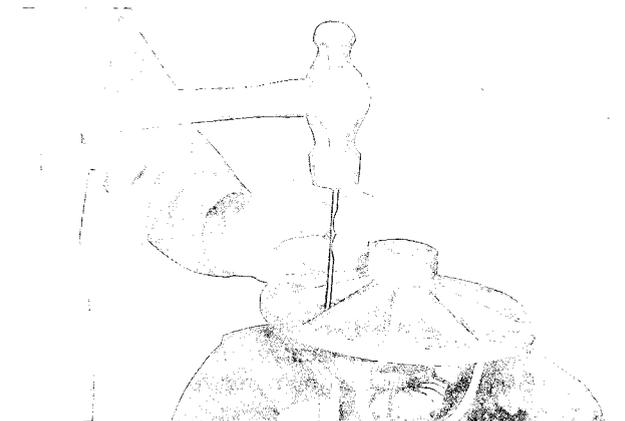

Fig. 9-7 Removing pinion shaft lock pin
3. From the back side of the gear case flange, drive the pinion shaft lock pin out of the gear case with a suitable drift, as shown in Fig. 9-7.